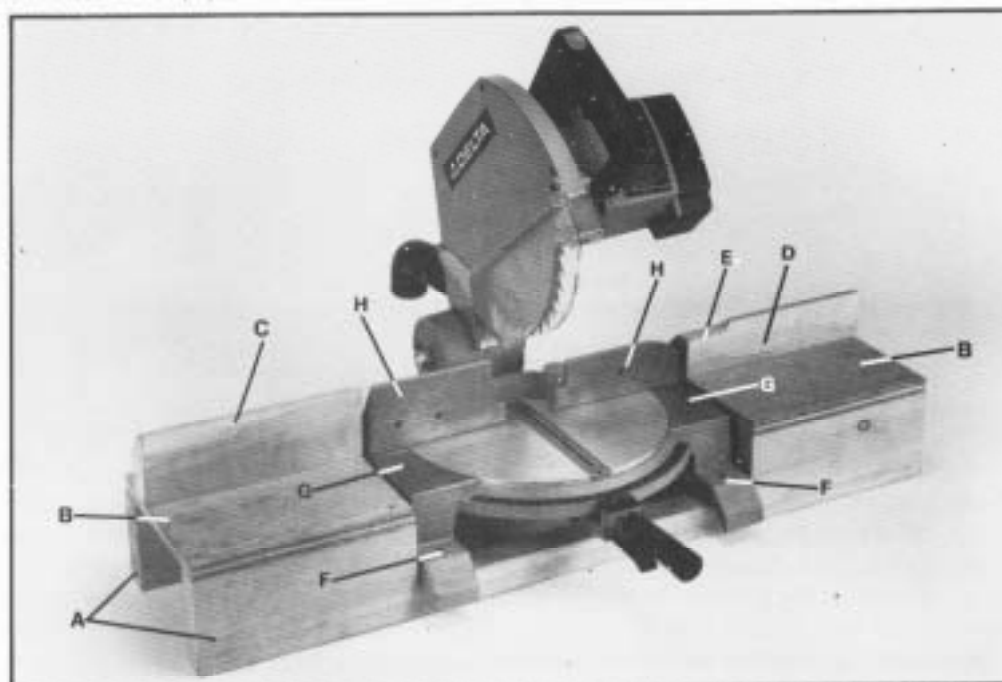

Fig. 63
Fig. 63, illustrates the table extension assembled. The two tables (B) are nailed to the two base supports (A) and the fences (C) and (D) are fastened to the table with screws from underneath the table. The cut-out (E) on the right hand fence is necessary for motor clearance.
The miter box is fastened to the two base supports (A) Fig. 63, using four screws, two of which are shown at (F). Shims can be placed between the mounting legs of the miter box base and the two base supports (A) Fig. 63, in order to make sure that the miter box tables (G) are in alignment with the wooden table extensions (B). Make certain the wood fences (C) and (D) Fig. 63, are in alignment with the miter box fences (H).